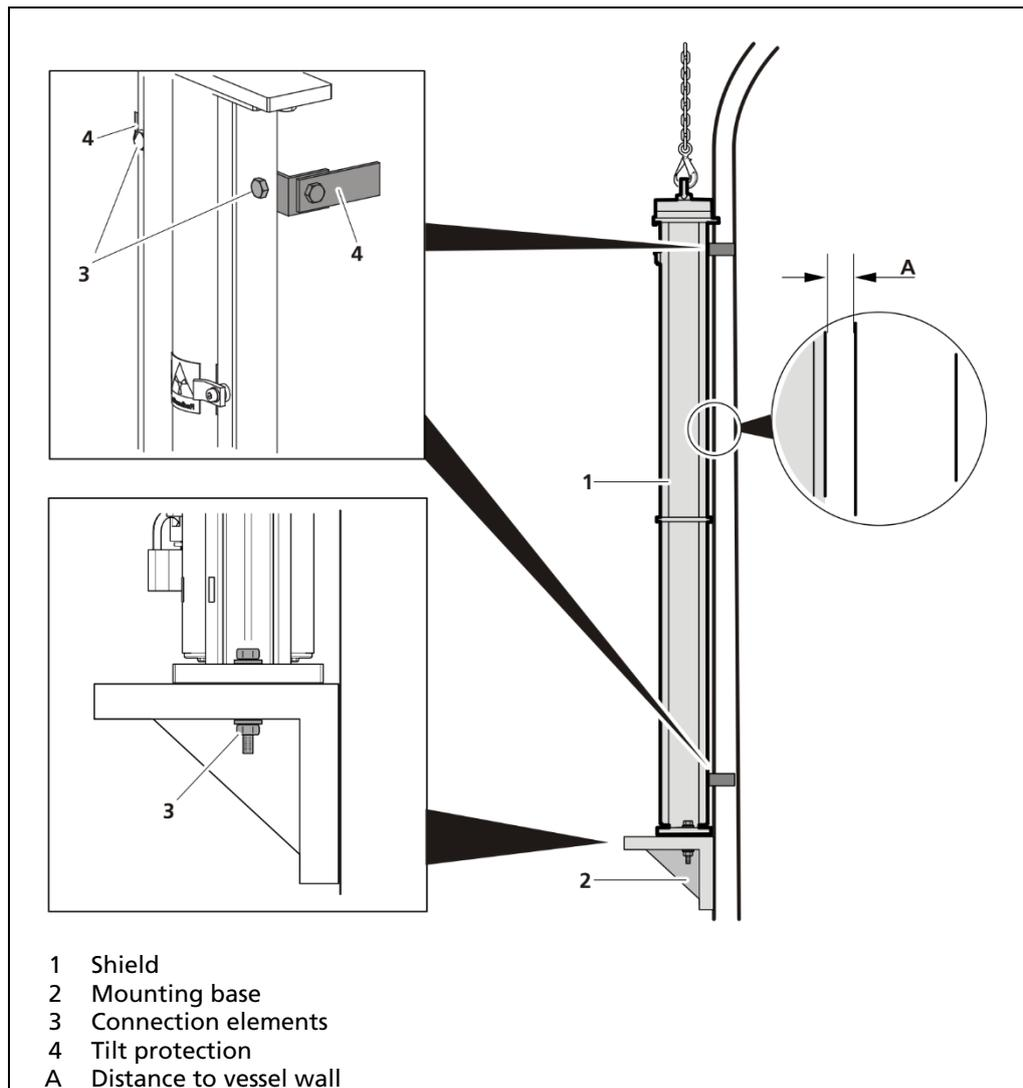

Fig. 6 Installation on vessels
6. Fasten the shield (Fig. 6, item 1) to the mounting base (Fig. 6, item 2). The plant operator is responsible for selecting the connection elements (Fig. 6, item 3), the screw locking and the tightening torque.
7. Secure the shield to the container wall with the anti-tilt device on both sides (Fig. 6, Pos.4). The plant operator is responsible for selecting the connection elements (Fig. 6, item 3), the screw locking and the tightening torque.
In the design of the shield it was assumed that the shield is mounted with a distance A of 20 mm, see Fig. 6.